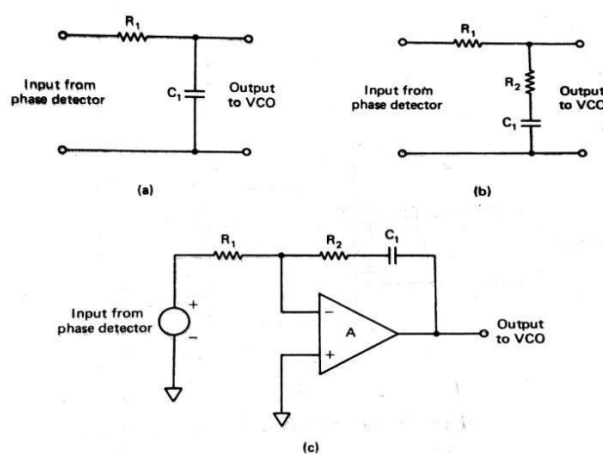

Figure 10-29 Low-pass filters. (a) and (b) Passive filters. (c) Active filter.
- The loop filter used in the PLL may be one of the three types shown in figure 10.29.